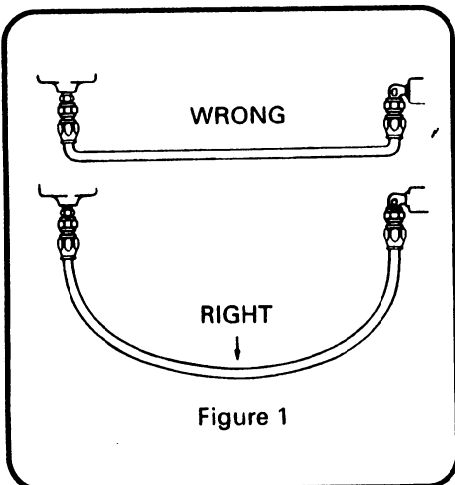

Figure 1
- a. Do not exceed minimum bend radius during handling, storage or installation (see minimum bend radius charts). If the bend radius is exceeded, the hose will tend to flatten and kink. If the hose is kinked, it should be discarded. An adequate bend radius will help prevent the hose line from collapsing or restricting flow. (See Figure 1.)